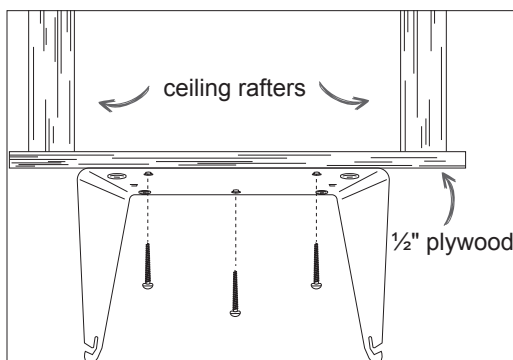

Figure 6
4. Insert one of the 2 inch screws provided into the top, center keyhole position, leaving enough of the screw sticking out to attach the stand later (See Figure 6).
1. Securely fasten a piece of plywood (not provided) across two of your ceiling rafters that is a minimum of $\frac{1}{2}$ inch thick, 8 inches wide and long enough to span the distance across the two rafters (See Figure 6). Note: A 240 volt receptacle must be within six feet of the heater.